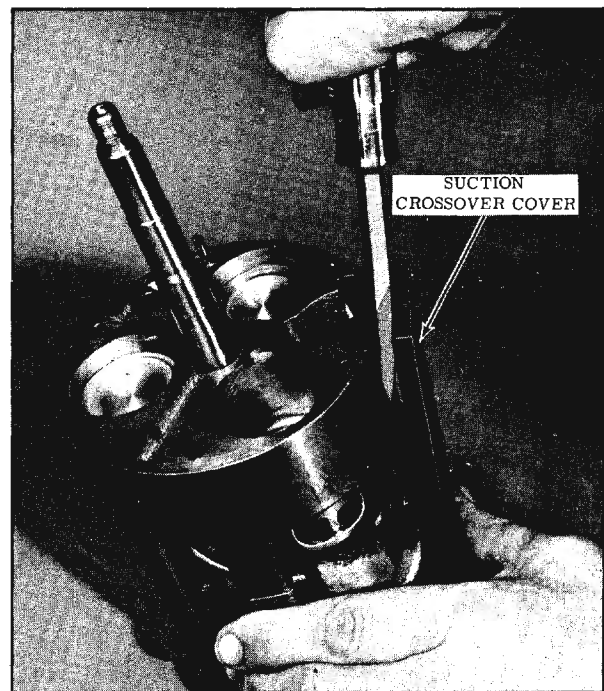

Fig. 15-69 Removing Suction Crossover Cover
1. Remove the suction crossover cover and seal. (Fig. 15-69)